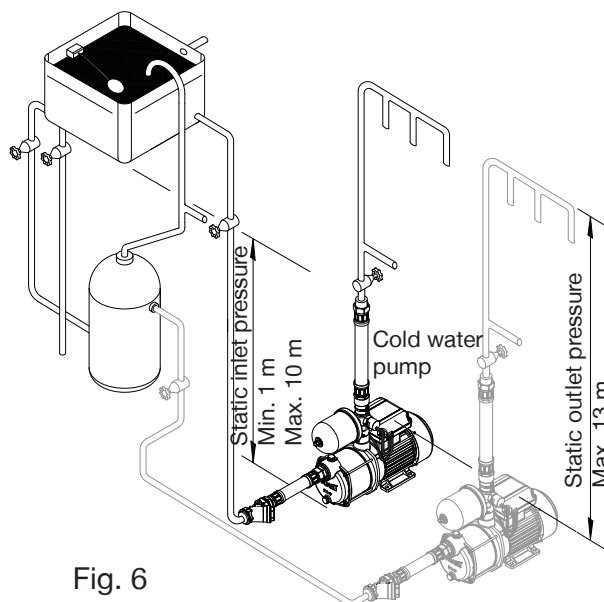

Fig. 6
- 2.16 **Static inlet pressure:** Before deciding where to locate the unit check to ensure the static inlet head between pump and cold water level (Figs. 6 & 7) is at least 1 metre and does not exceed the max inlet head of 8 metres for the U1.4 and 10 metres for other models.
- 2.19 **Static outlet pressure:** The static outlet head (Figs. 6 & 7) must also be within the maximum requirement of 8 metres for U1.4 and 13 metres for all other models.